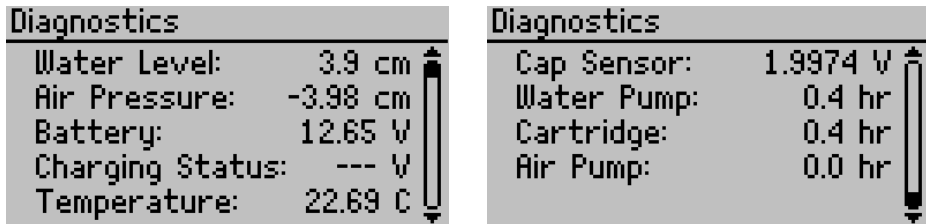

Figure 27 Viewing the Diagnostics option
- **Diagnostics.** Shows all the current readings from the instrument: water level (the current water level above the soil); air pressure (pressure in the head space of the infiltrometer assembly); battery (current battery voltage); charging status (observed voltage from charging power supply); temperature (internal temperature of the control unit); and cap sensor (measured voltage of the cap sensor, which is proportional to the humidity within the control unit) (Figure 27).